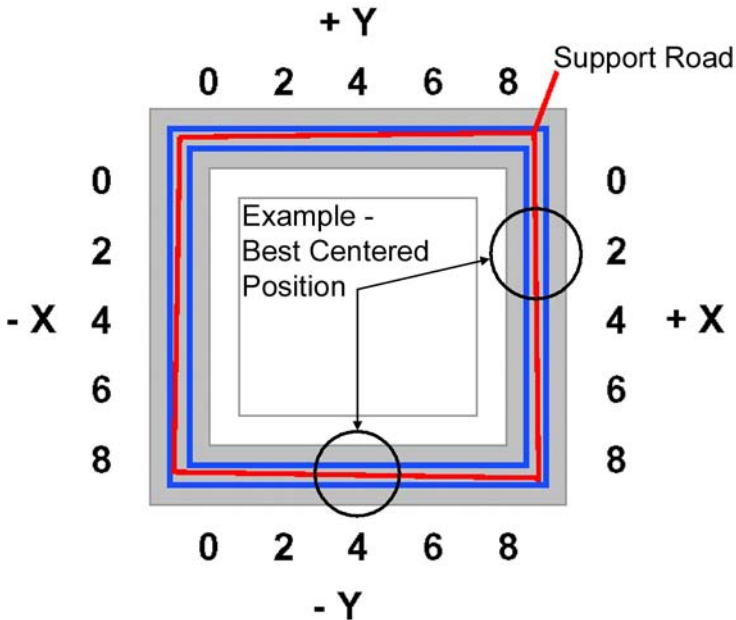

Figure 25: Example XY Tip Offset Part.
3. Inspect the part and calibrate the X and Y axes (See Figure 25 on page 58).